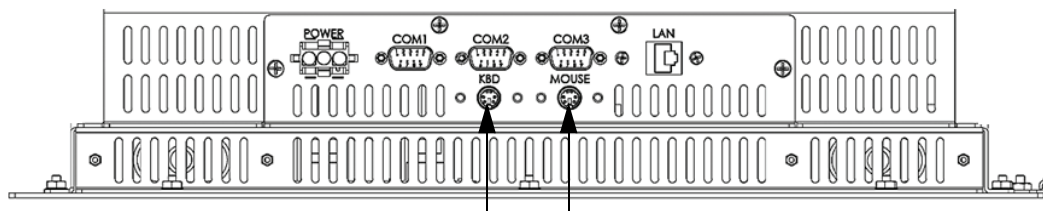

Figure 3.2 FIRSTVISION Standard Keyboard and Mouse Connections
- PS/2 connectors located on the bottom of the LCD (Figure 3.2).